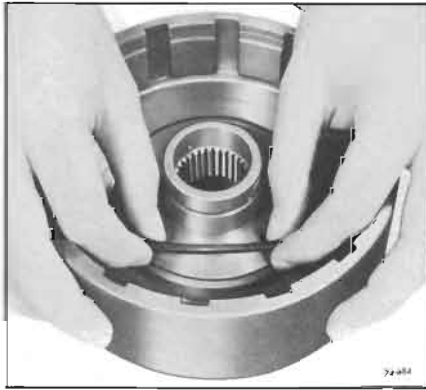

Figure 74-684
3. Install a new center seal on clutch housing with lip of seal facing up. See Figure 74-684.